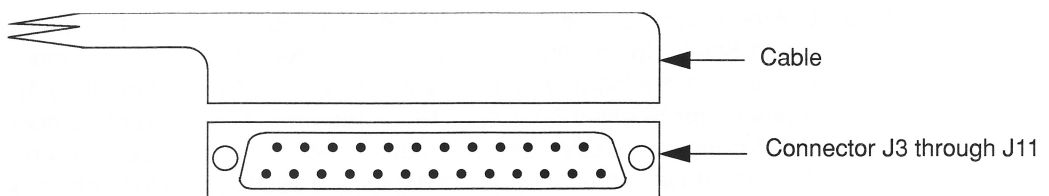

Figure 3-8 Shielded Connectors
- 3.14 Shielded Connectors J3 through J9 (2210A) and J3 through J11 (2210B) provide shield connections when a shielded cable is inserted into the backplane connector. Shield clamps are not required on these connections (refer to Figure 3-8).